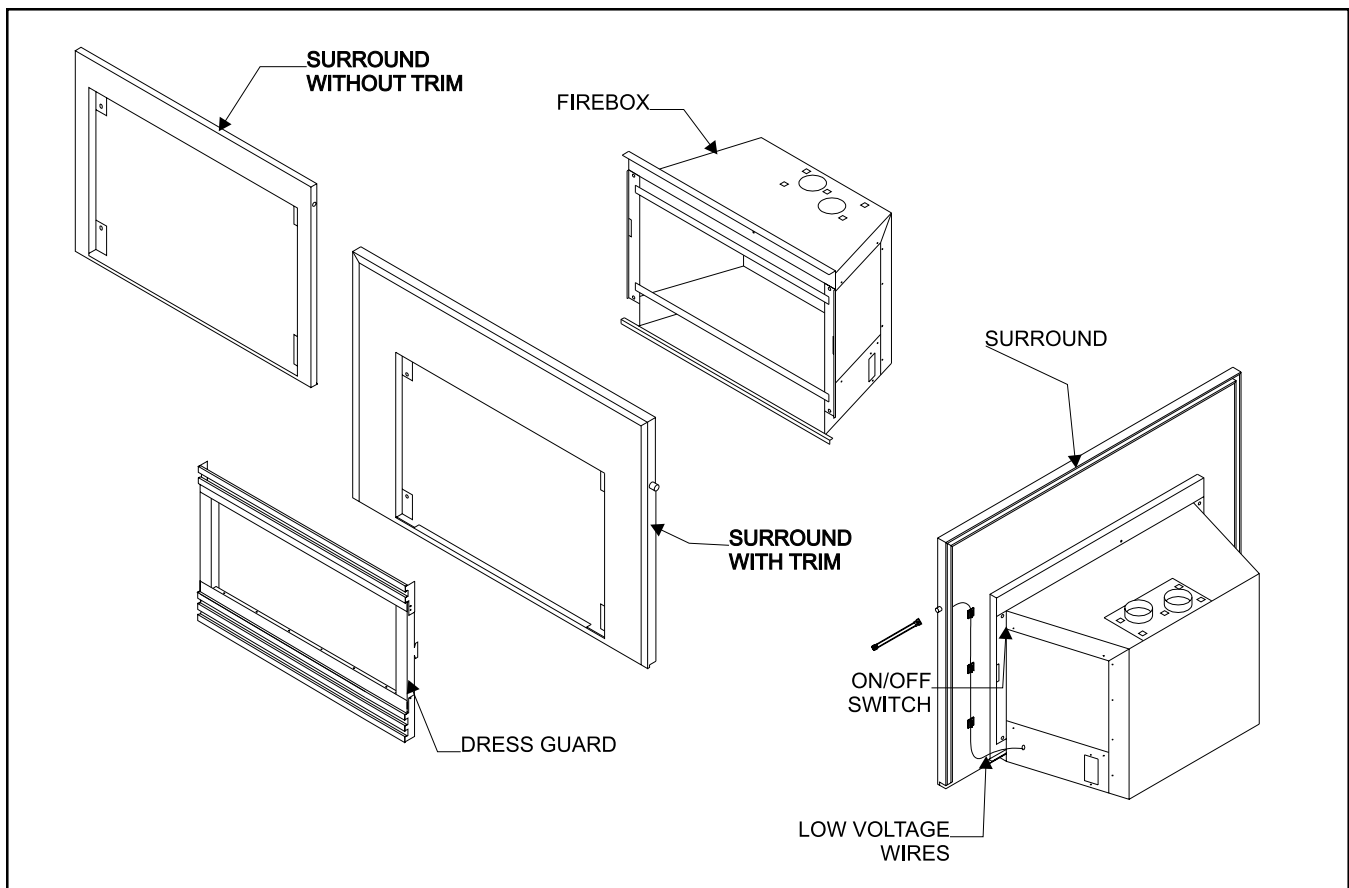

FIGURE 9
1. Find the coiled low voltage wires and ON/OFF switch attached to outer right side of the insert. See Figure 9.
4. Remove and retain the four surround attachment screws at the corners of the face of the unit. See Figure 9.